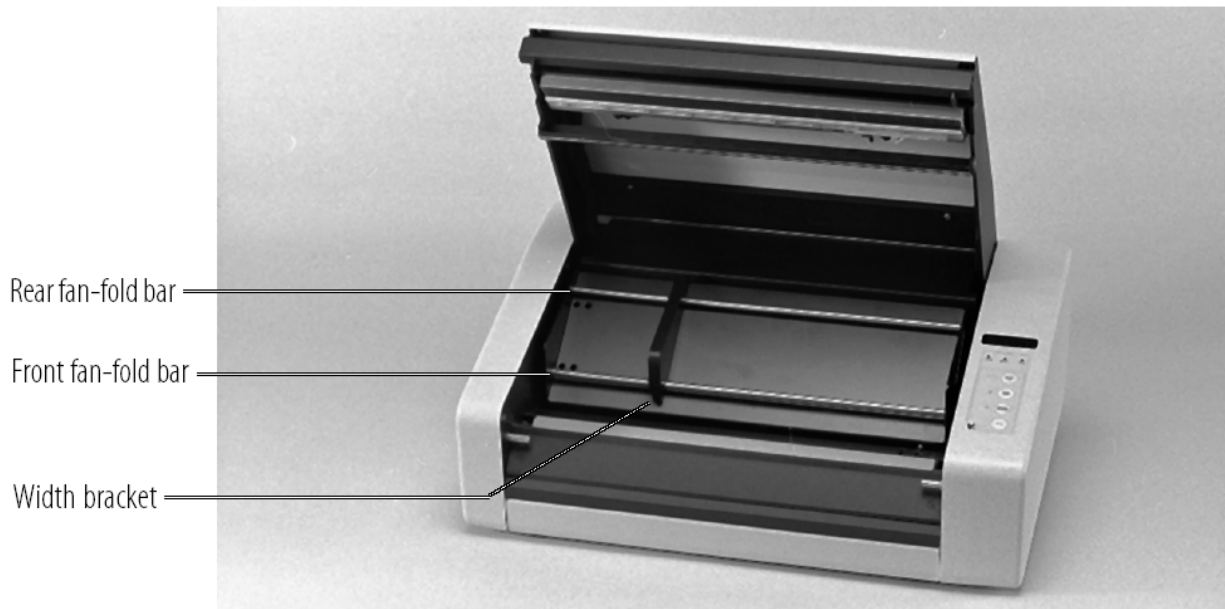

Figure 3-6. Fan-fold feeder tray
3. Slide the width bracket on the fan-fold guide to fit the paper you are using. See Figure 3-6